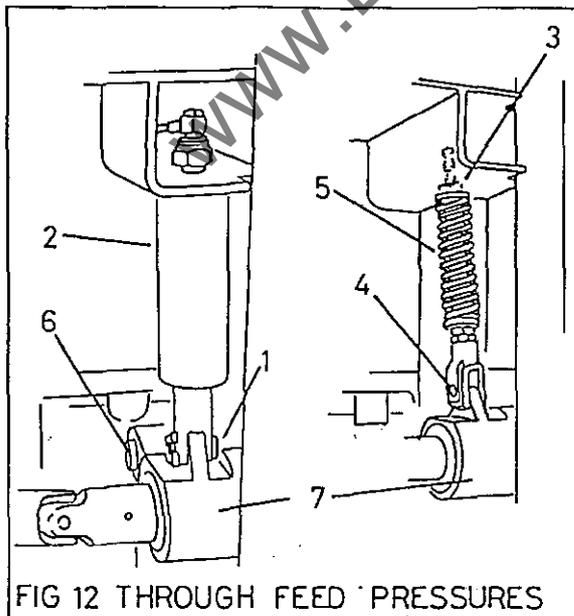

FIG 12 THROUGH FEED PRESSURES
Removing Top Throughfeed Roller Swings (Fig 12)
- 3) Place the supplied lever tool as shown (Fig 12), the hole in the tool fitting over the idle belt roller pivot.
- 4) Applying force on the lever push the idle roller (6) back against the gas spring pressure and remove belt (7).